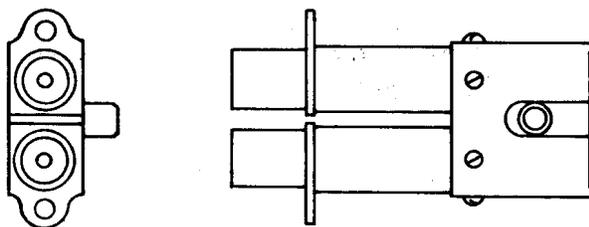

Fig. 4—603A Jack
2.04 **603A:** This twin coaxial-type jack (Fig. 4) is designed to mate with the 358A or similar-type plug. This jack employs an adapter which allows for cabling at a right angle. The 603A jack is used with the A2AT Video Transmission System.